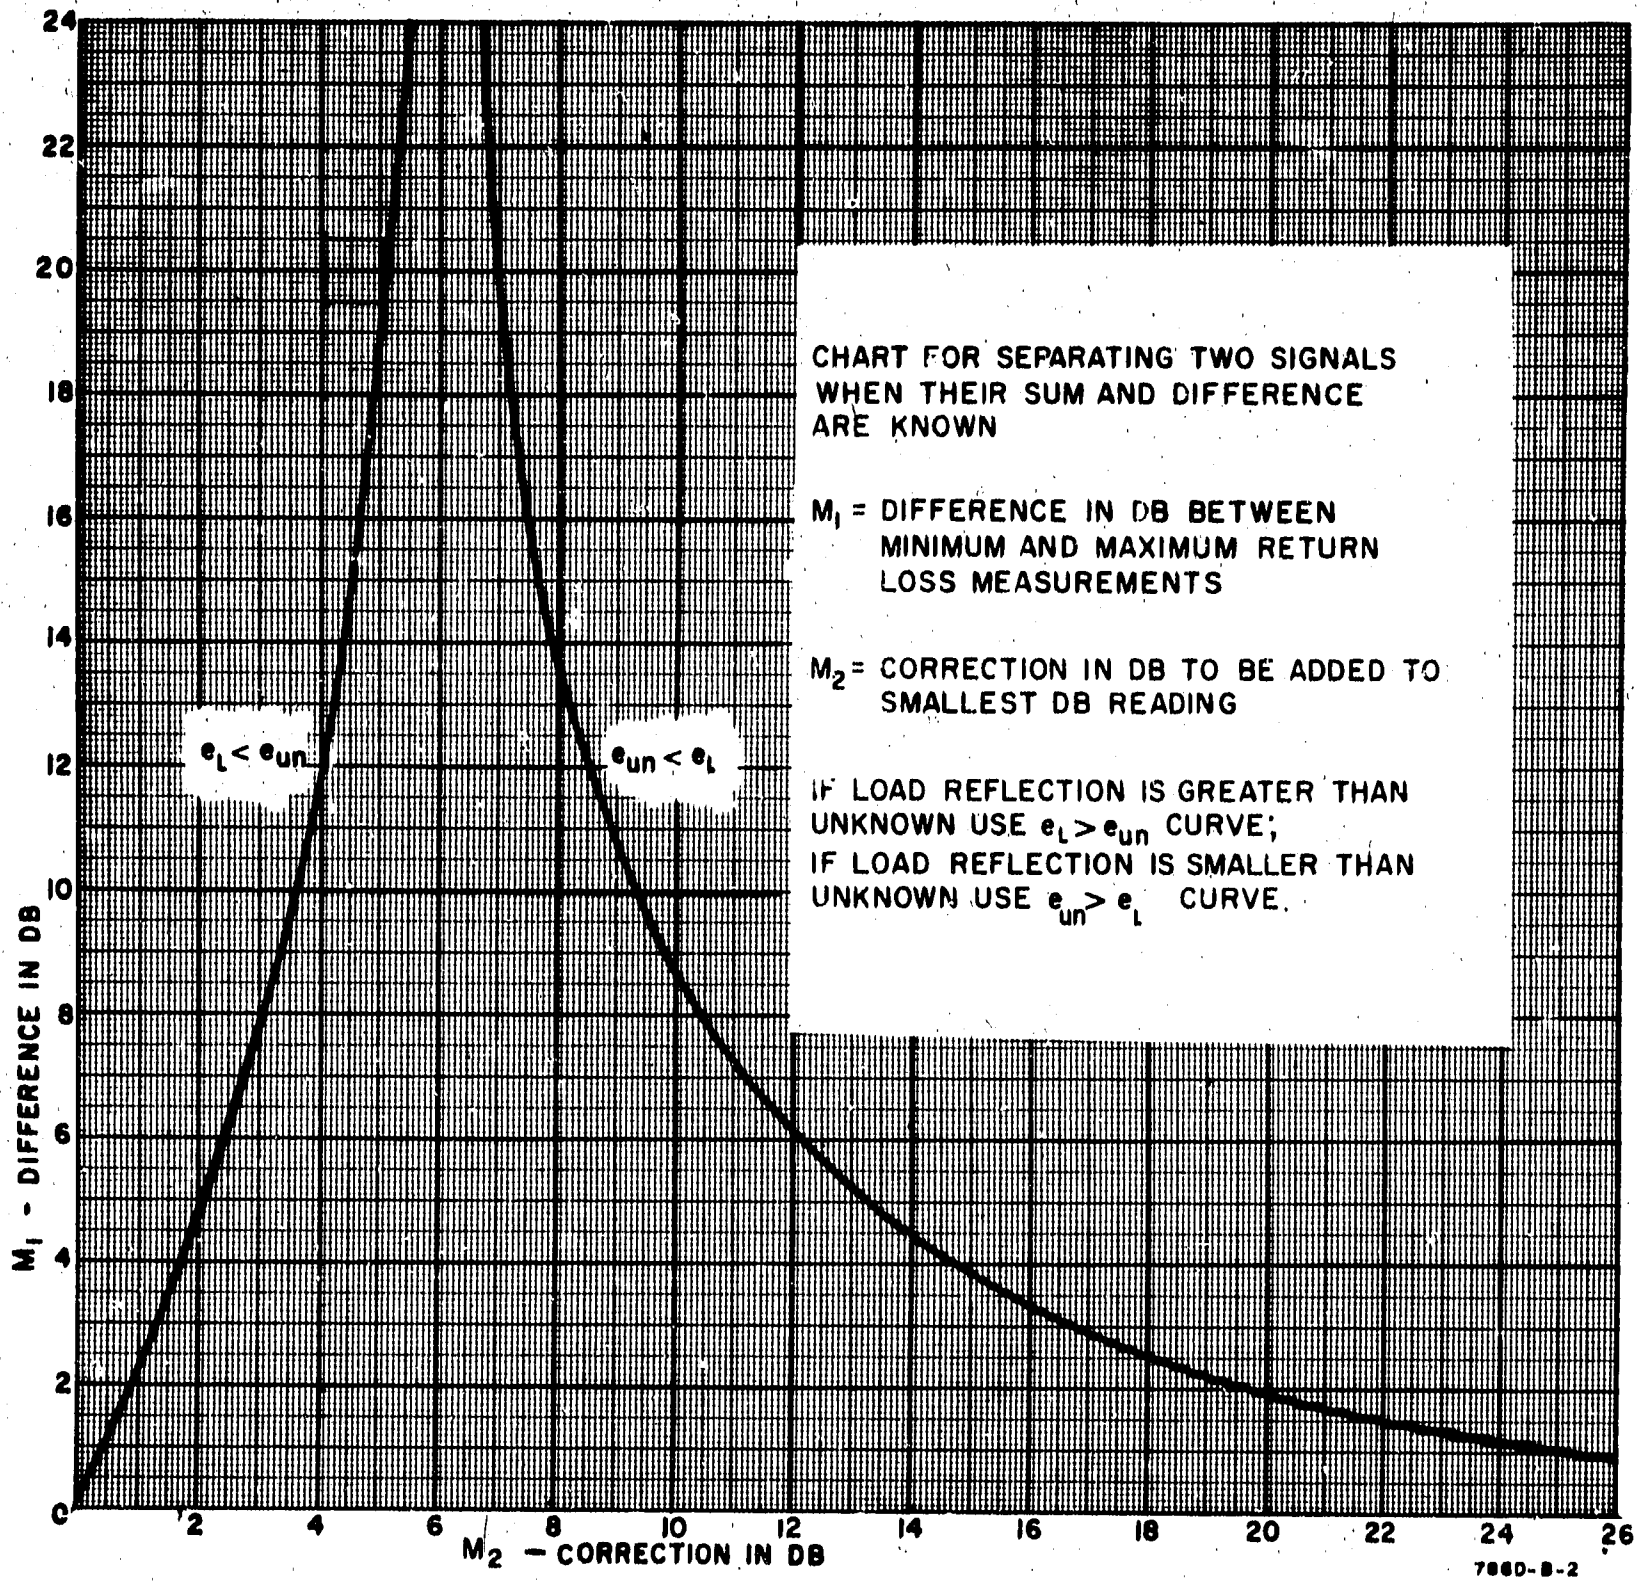

Figure 11. Signal Separation Chart
i. Refer to Figure 11. Determine values for  $M_2$  which are the two correction factors to be used. Add the minimum reading of step g to each correction ( $M_2$ ). For example, if the difference in db ( $M_1$ ) is 4.9 db, then from the graph (Figure 11) the two corrections are 2.1 and 13.3 db. One corrected value is Sliding Load return loss and the other is 786D directivity.
- Referring to Figure 11, the two correction factors are 2.1 and 13.3 db.
- The above steps were repeated which resulted in SWR Meter indications of 25.5 and 28.0 db. The difference between the two readings is 2.5 db which from Figure 11 determined the two correction factors to be 1.2 and 18.0 db.